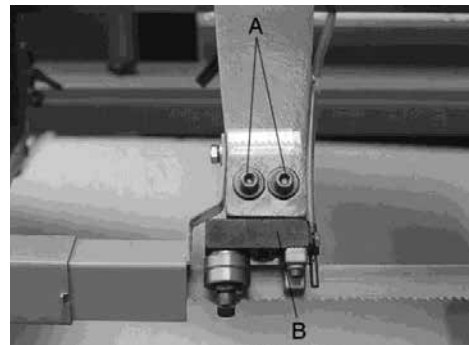

Figure 12. Thrust Roller Adjustment
2. Loosen two hex socket cap screws (Figure 12, **A**).